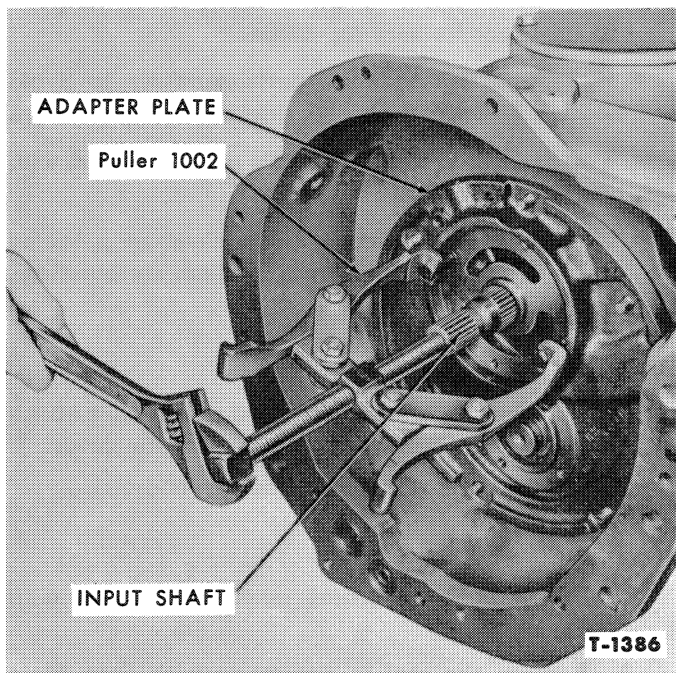

Figure 99—Pulling Adapter Plate
6. Install a suitable puller, as shown in Figure 99, against the input shaft using the pump mounting holes to pull on and remove the adapter plate.